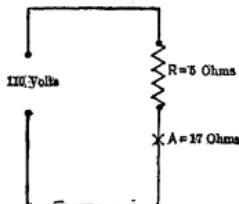

FIG. 29. A coil and arc lamp across a 110-volt line.
16. Series Circuit. Voltage. Suppose a coil (R) of 5 ohms resistance, and an arc lamp (A) of 17 ohms resistance are joined in series, as in Fig. 29, across a 110-volt line.